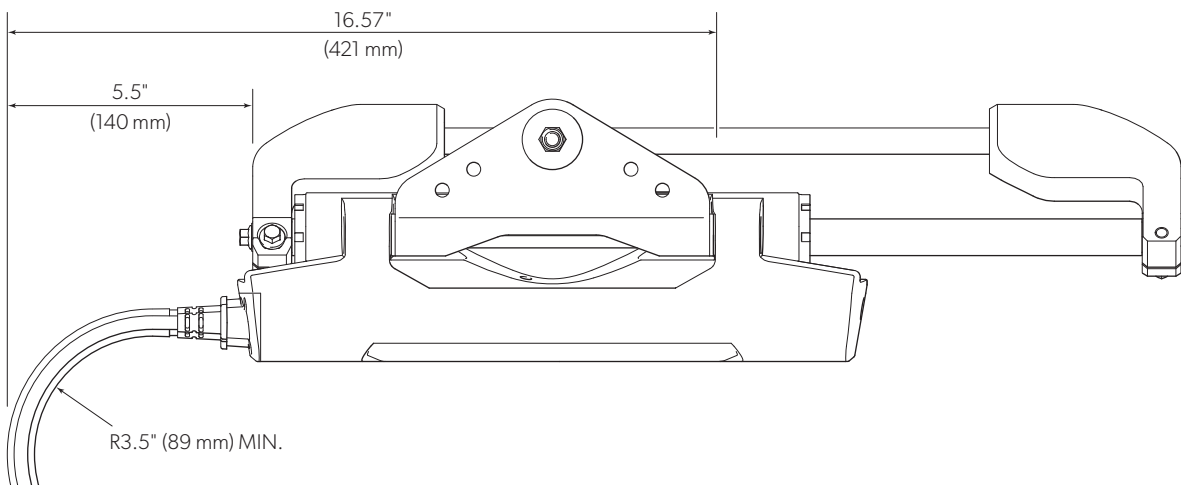
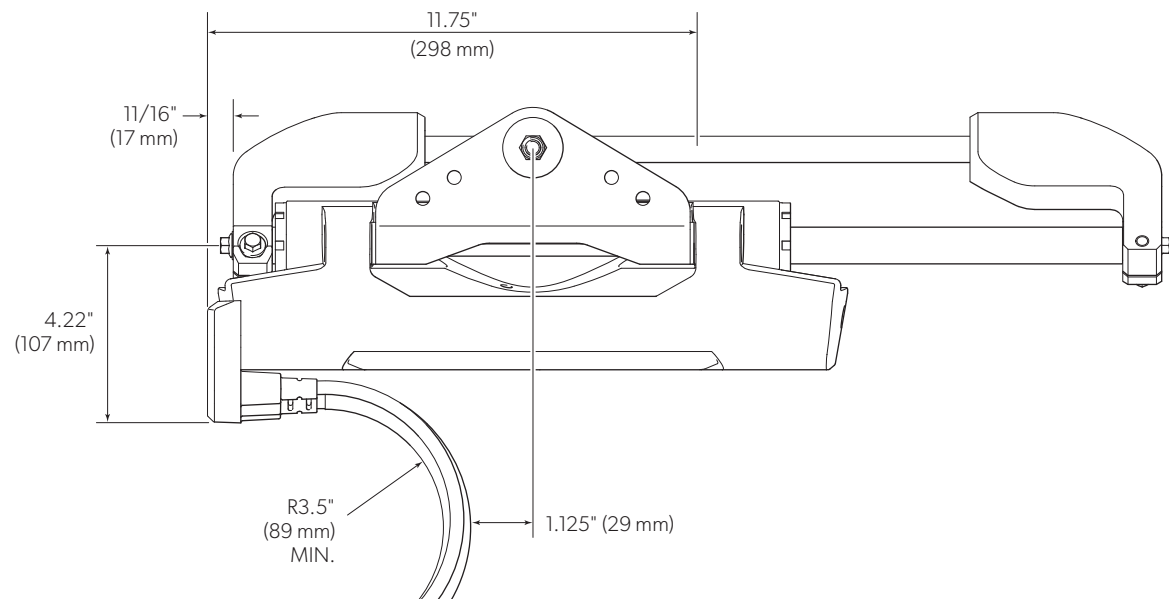

Figure 11-16. Minimum clearance for straight actuator harness.
Figure 11-17. Minimum clearance for 180° actuator harness.
- Two harness styles are available for the actuator in order to meet the minimum bend radius of the cables. The straight harness is for boats with tight clearance to the bottom of the splashwell and the 180° harness is for boats with tight clearance to the side of the splashwell. The splashwell clearance requirement for the two harness styles are shown in figure 11-16 and figure 11-17.